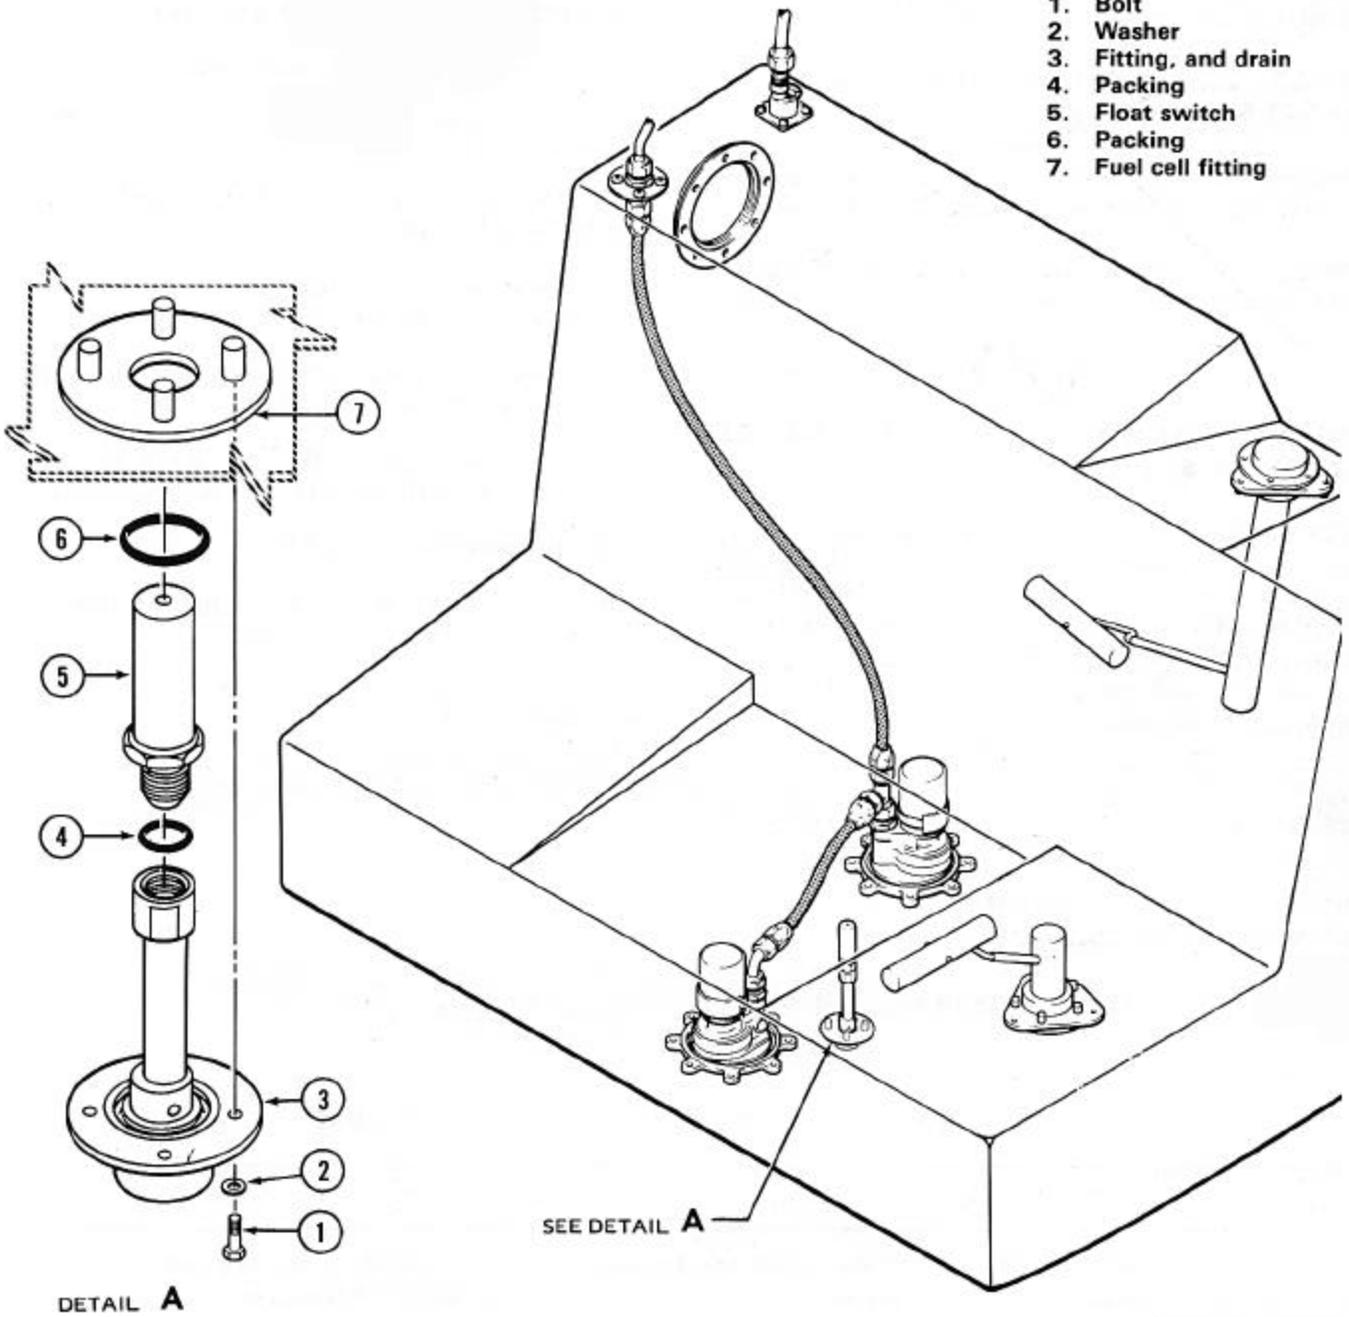

Figure 24-8. Fuel Low Level Float Switch
The fuel low caution system provides a visual indication of a low fuel condition, 20 U.S. gallons of fuel remaining. This includes the fuel low level float switch (Figure 24-8) and the FUEL LOW caution light located on the caution panel light assembly.
3. Disconnect electrical wire from float switch. (Figure 24-8).